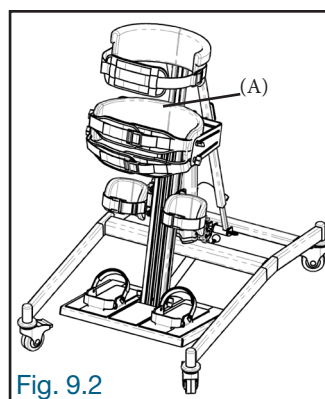

Fig. 9.2
9.2 Once all the restraints (thoracic, hip, knee) have been cleared, gently transfer the user into the product. To facilitate the transfer, the user can hold onto the back of the hip restraint (A) (Fig. 9.2).